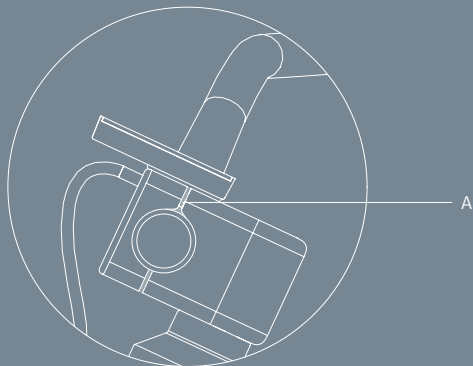

Fig. 23
4. Ensure to tighten the upper and lower bolts equally. Check that the gap (A) between the upper and lower stem is equal. See Fig 23.